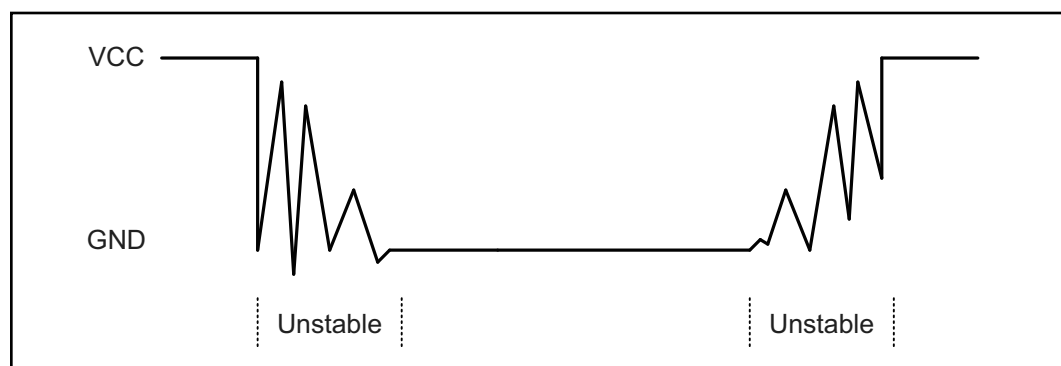

Figure 9. Keyboard Debounce
2. To see if any key is pressed, the columns are scanned over and over in an infinite loop until one of them has a 0 on it. Remember that the output latches connected to rows still have their initial zeros (provided in stage 1), making them grounded. After the key press detection, the microcontroller waits 20 ms for the bounce and then scans the columns again. This serves two functions: (a) it ensures that the first key press detection was not an erroneous one due to a spike noise, and (b) the 20-ms delay prevents the same key press from being interpreted as a multiple key press. Look at Figure 9. If after the 20-ms delay the key is still pressed, it goes to the next stage to detect which row it belongs to; otherwise, it goes back into the loop to detect a real key press.